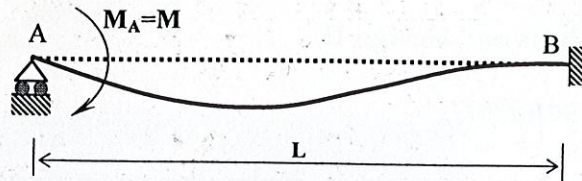

Fig. 3(a)
- a.) Show that when moment M is applied at A for the beam shown in the Fig. 3(a), the moment induced at support B will be $M/2$.